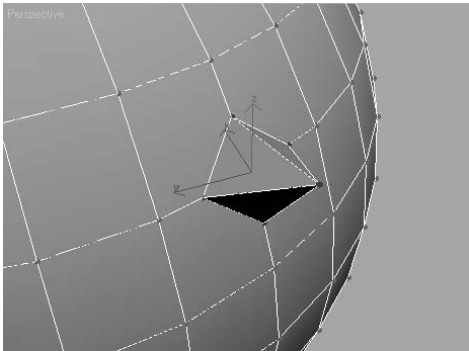

Figure 4.28
2. Select a vertex on your sphere, and the vertex will turn red. Go to the Edit Vertices rollout in the Modify panel, and press the Settings button next to Extrude to bring up the dialog box in Figure 4.27. Set an exact extrusion height and base width, and click Apply to create the extrusion. You can also click and drag to interactively pull out the vertex. Figure 4.28 shows a single extruded vertex.